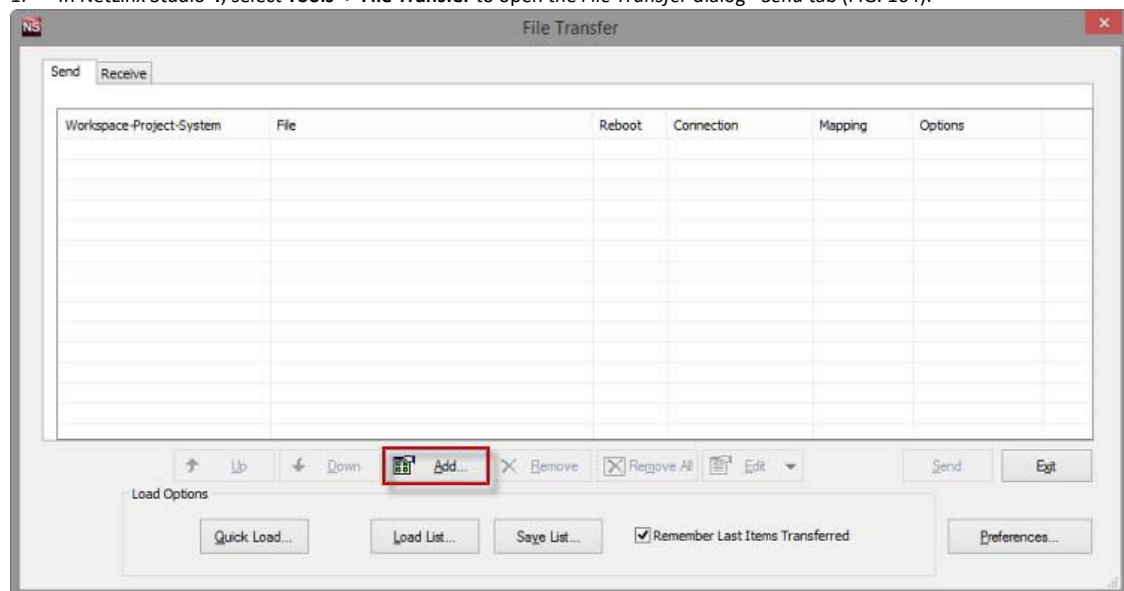

Fig. 164 NetLinX Studio 4 - File Transfer dialog
1. In NetLinX Studio 4, select **Tools -> File Transfer** to open the *File Transfer* dialog - *Send* tab (FIG. 164):